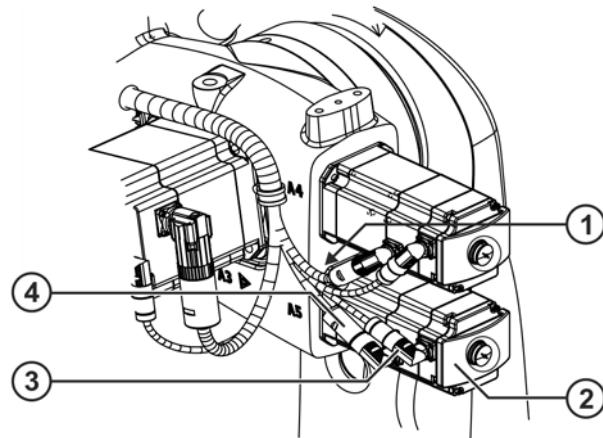

Fig. 11-13: Removing motor A5
1. Release and unplug connectors XM5 and XP5 at the sockets (**>>> Fig. 11-13**).
8. Clean the mounting surface for motor A5 on the arm (>>> Fig. 11-13).